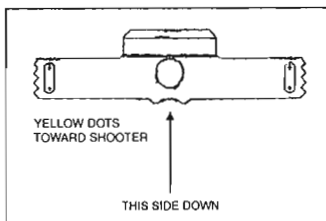

Figure 3
- Press the slide lock spring down as far as possible, then insert the laser switch/slide lock. Figure 3 shows the proper orientation of the